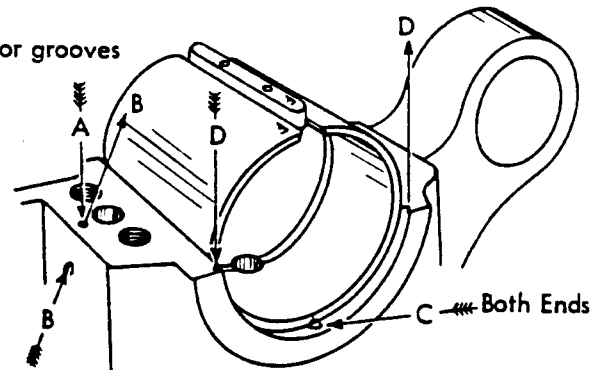

Fig. 7. Run pipe cleaner through oil breather holes at A and B also oil return hole at C and groove D to clean out any obstruction
1. Wipe all parts free of dirt and chips. Be sure all oil return and breather holes are clear. See Fig. 7.
1. Usually a clogged oil return or breather hole. Remove bearing caps and proceed as in Fig. 7.